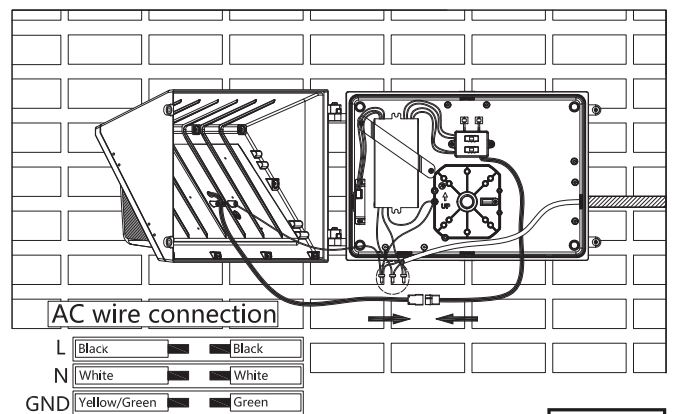

Fig. 14
6. Install the lamp body back onto the back plate, reconnect the DC wire connector, and connect the AC input wires according to the wiring diagram. (See Fig. 14)